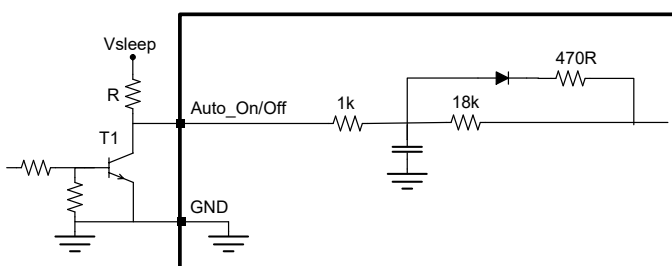

Figure 15: Controlled On/Off application
- On/Off by mains switch: If the board should power up when mains voltage is present, the Auto_On/Off pin should be connected to GND as shown in figure 15 to disable the Signal Sense feature.